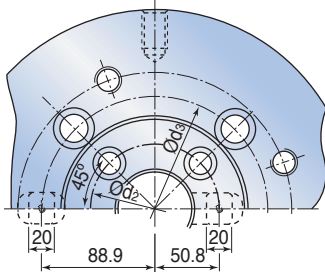

Fig.1
- K: Adapter with setting key (Fig.1)